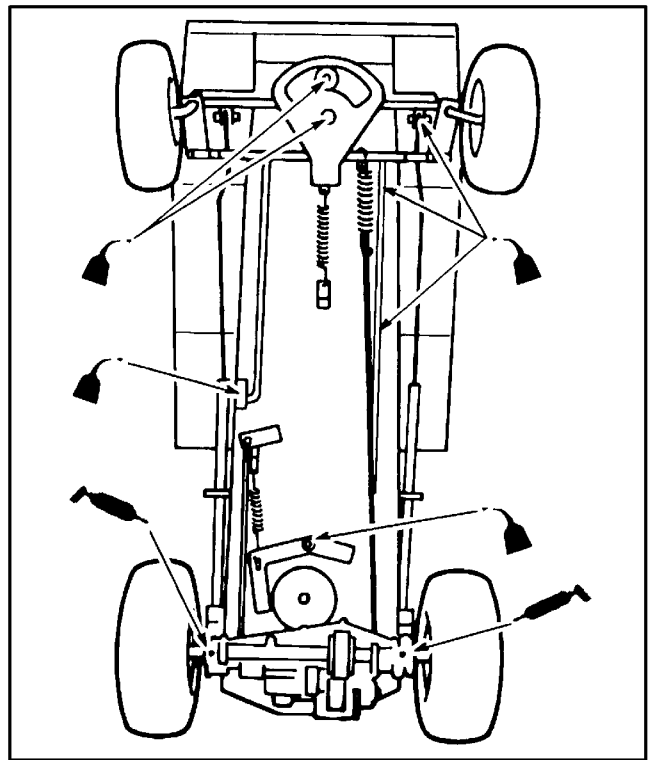
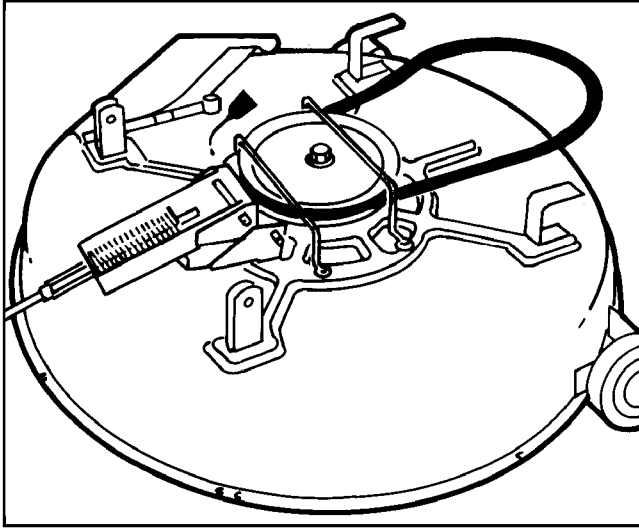

Figure 12
Figure 13
4. Lubricate rear axles with one or two pumps of No. 2 general purpose grease. The grease fittings are just inside the rear tires on the bottom of the transmission (Fig. 12).
7. Lubricate the pivot points in the steering, drive, brake, clutch, and deck engagement linkage with light oil (Fig. 12). Also lubricate the mower housing (Fig. 13). Wipe up any excess oil.